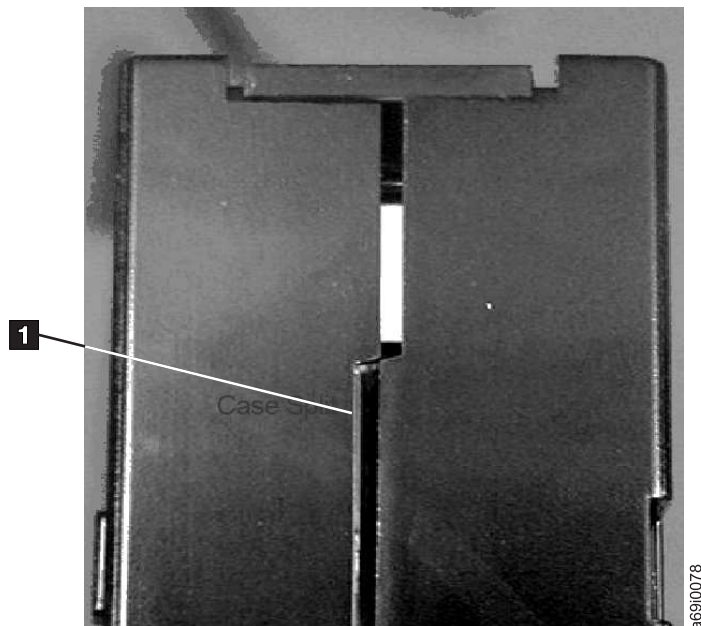
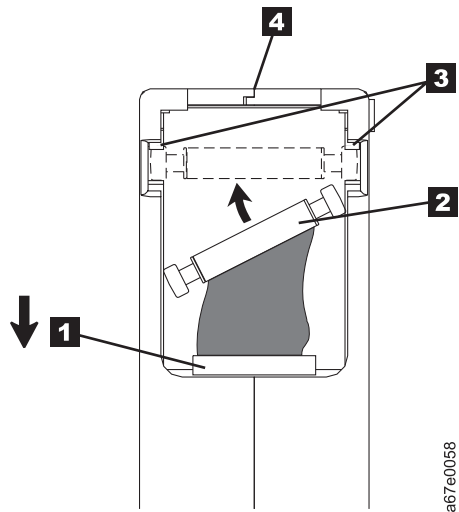

Figure 17. Checking for gaps in the seams of a cartridge
Figure 19. Placing the dislodged leader pin into the correct position. The cartridge door is open to show the leader pin.
- Inspect the rear of the cartridge (the part that loads first into the tape load compartment) and ensure that there are no gaps in the seam of the cartridge case (see **1** in Figure 17 and **4** in Figure 19 on page 48). If there are gaps in the seam (see Figure 17), the leader pin might be dislodged. Go to “Repositioning or reattaching a leader pin” on page 47.
Split cartridge case. See Figure 17 on page 46.
1. Slide open the cartridge door (**1** in Figure 19) and locate the leader pin (**2** (you might need to shake the cartridge gently to roll the pin toward the door).